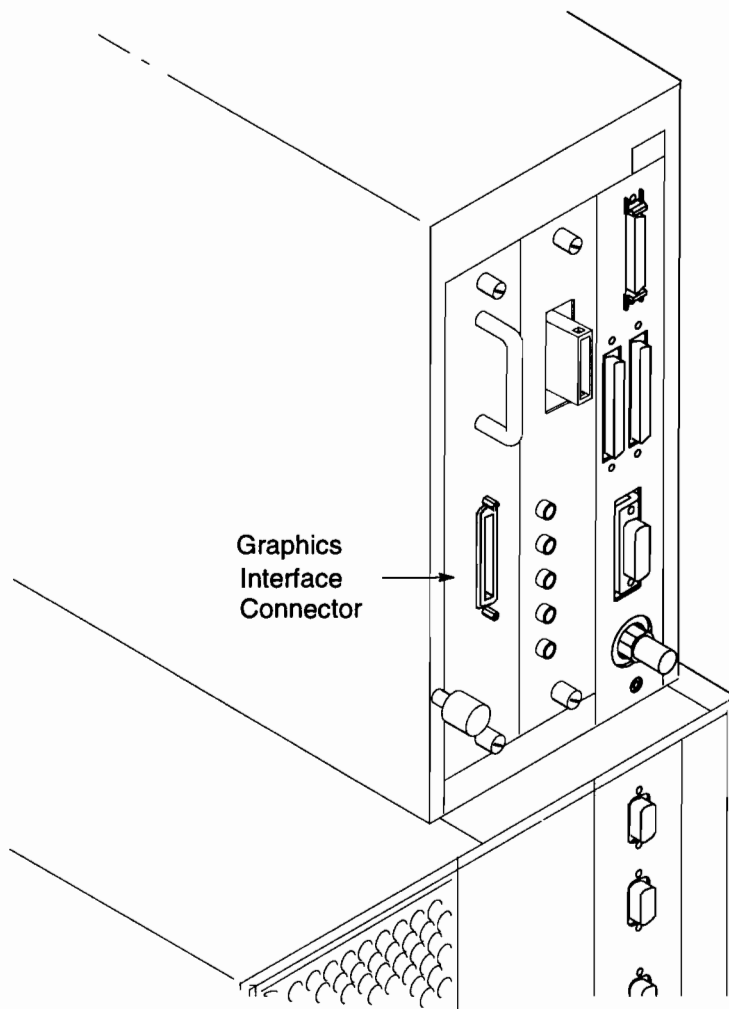

Figure 1–8. Graphics Interface Card Connector
The system ac connector is located in the power supply. See Figure 1–6.
The EISA card bay is above the power supply and contains four slots for EISA circuit cards. Each EISA card has a faceplate that contains one or more connectors. Four vertical openings allow access to the faceplates of the cards. If your system has no EISA cards, the openings will be covered with blank faceplates. See Figure 1–6.
- **Color graphics card** — This device has three BNC connectors; one each for red, blue, and green. These are connected by a cable to three similar connectors on a color monitor. See Figure 1–7.
- **Graphics interface card** — This device has a connector that is connected to an external graphics processor, which in turn is connected to a video monitor. See Figure 1–8.